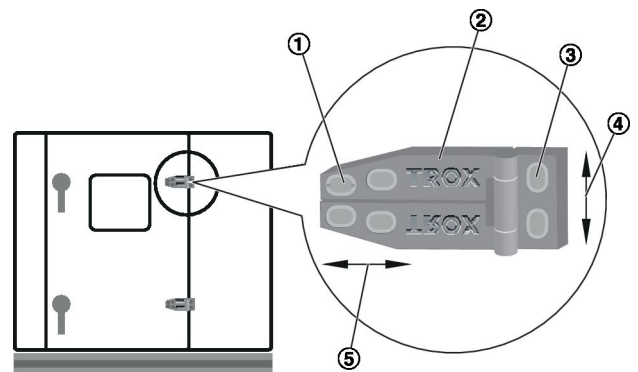

Fig. 39: Adjusting the door
1. ▶ Remove the hinge covers (Fig. 39 /1).
2. ▶ Loosen the screws of all hinge brackets (Fig. 39 /2) of a door.
3. ▶ Adjust the door horizontally (Fig. 39 /5).
4. ▶ Tighten the screws of the hinge brackets (Fig. 39 /2).
5. ▶ Loosen the screws of all hinge blocks (Fig. 39 /3) on a door.
6. ▶ Adjust the door vertically (Fig. 39 /4).
7. ▶ Tighten the screws of the hinge blocks (Fig. 39 /3).